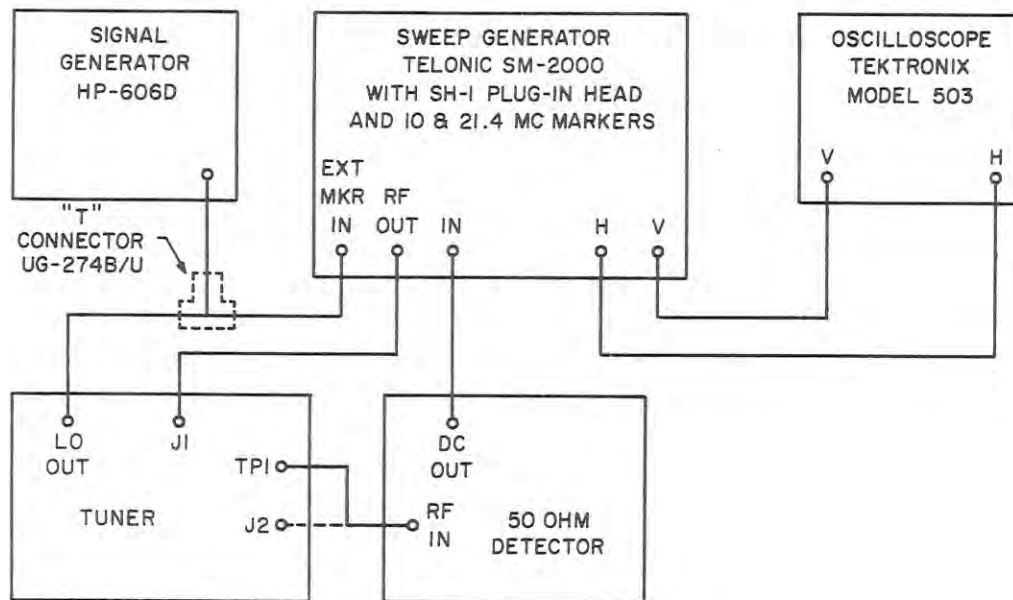

Figure 5-7. Tuner Alignment Test Set-Up
- (1) SH-221-3 Tuner: Connect the test equipment as illustrated in Figure 5-7.
(2) PR-21.4-3 Preamplifier:
- a. Connect the test equipment as shown in Figure 5-7 with the RF output of the sweep generator connected to preamplifier input jack J1. The LO OUTPUT from the tuner is not used and therefore the output of the 606D signal generator is connected directly to the EXT. MKR. connector on the sweep generator.